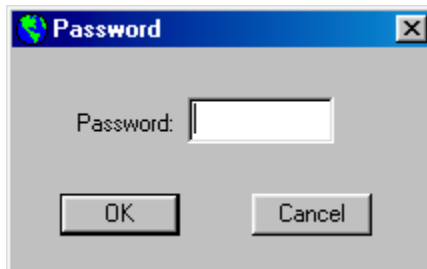

Figure 14 – Password Dialog Box
3. At the Password dialog box, enter the password and select [OK]. See Figures 14 and 15.
The default password is null data, no password, as shown in Figure 14. Select [OK] to enter Alignment mode. You must be in the Alignment mode to set or change the password. See Section 7 to set or change the password.
It is recommended to keep the default "tune frequencies" as shown in Figure 14. However, the frequencies can be changed should you desire to do so. The RX and TX frequency fields can be edited as described in sections 5.5.1.1 and 5.5.1.2.